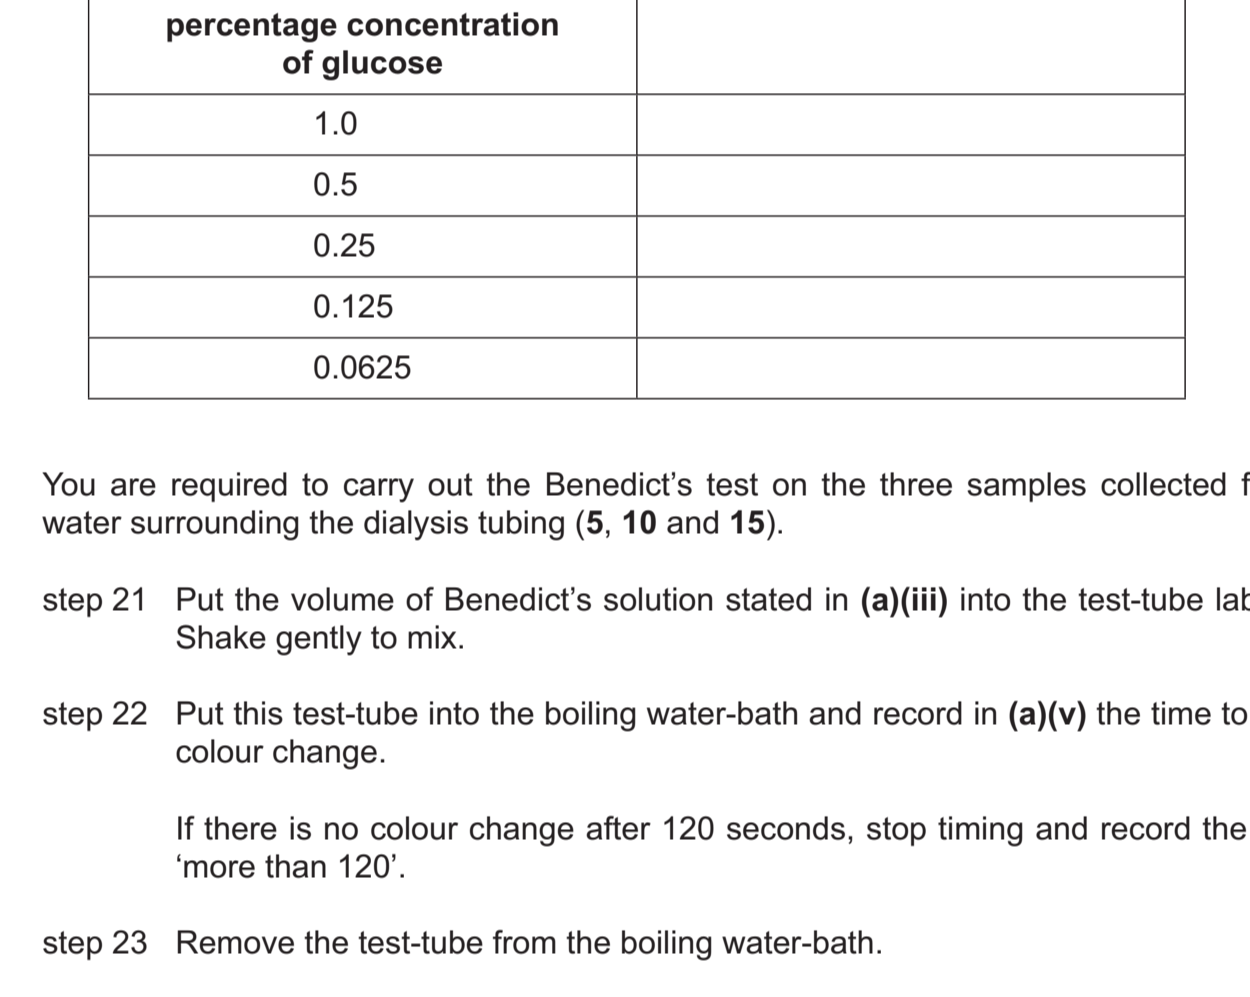

Fig. 1.3
You will need to carry out a **serial** dilution of the 1.0% glucose solution you have prepared in step 12 as shown in Fig. 1.3. You must reduce the concentration by **half** between each successive dilution.
(ii) Complete Fig. 1.3 to show how you will prepare your serial dilution.
step 14 Prepare the concentrations of glucose solution as shown in Fig. 1.3.
step 15 Label 5 test-tubes with the concentrations of glucose solution shown in Fig. 1.3.